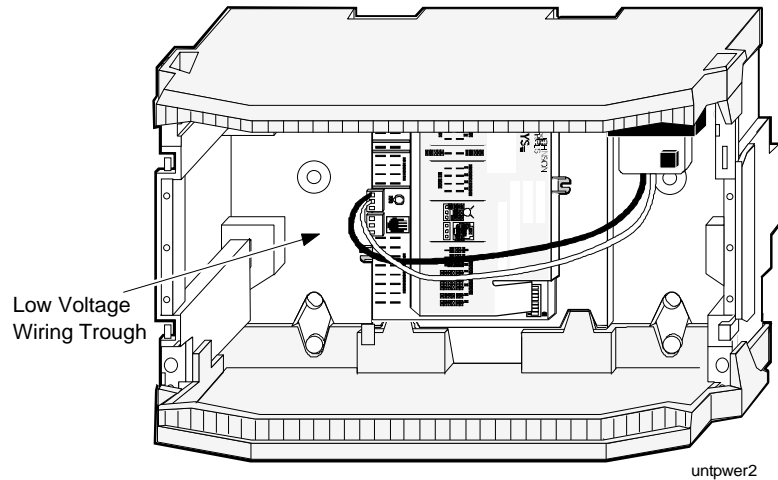

Figure 6: UNT Premounted in EWC10, with 50 VA Transformer (UNTxxx-101)
1. Position the terminals of the UNT toward the low voltage wiring trough located on the left side of the enclosure (see Figure 6).